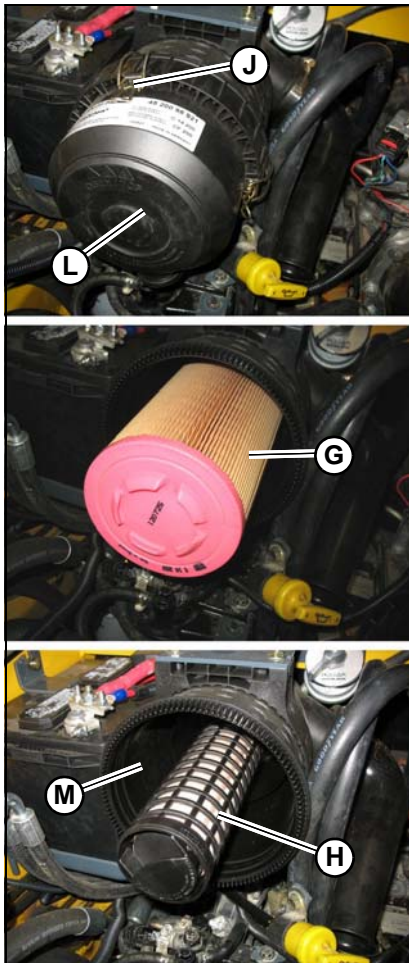

Figure 101 – Engine Air Cleaner
3. Unlatch clamps (J, Figure 101) on the air cleaner housing and remove the air filter cover (L).
5. Carefully remove the outer filter element (G).
6. Clean dirt from inside the air filter housing (M).
7. Remove inner filter element (H) only if it needs replacement.